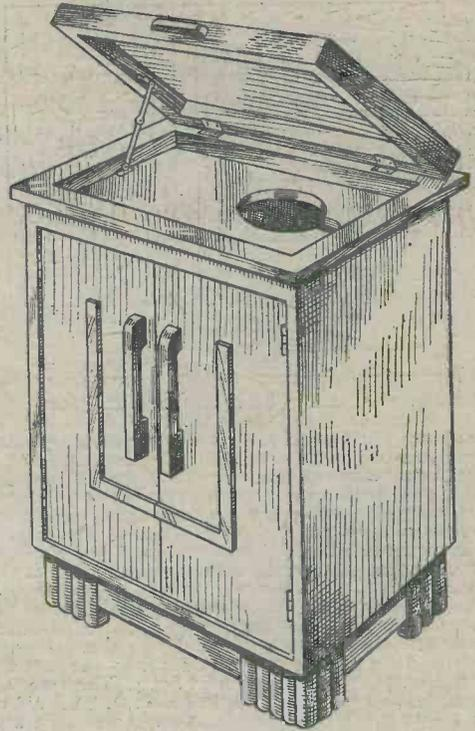

Fig. 1.—The modern cabinet, polished and ready for the radio set and gramophone fittings.
**W**HY not build your own radiogram? The ultra-modern cabinet illustrated at Fig. 1 need not worry you, as it has been specially designed for the amateur woodworker possessing only a few wood-working implements, such as a saw, hammer, chisel, brace and  $\frac{1}{4}$  in. dowel bit, a smoothing plane, glue, glass-paper block and strong, medium and fine grades of glasspaper.